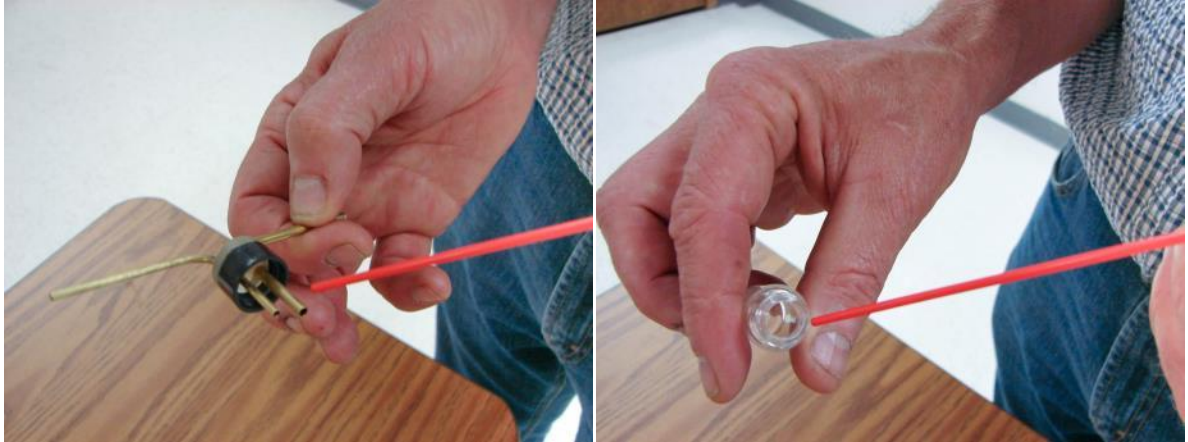

Figure 26: Cleaning the Glass Bead Dispenser
- 2.) Using the duster, clean the glass bead dispenser by blowing air through it (Figure 26). Make sure the bottom of the cap and tubes are cleaned as shown on the left in Figure 26. Also clean the dispenser's glass canister as shown on the right.